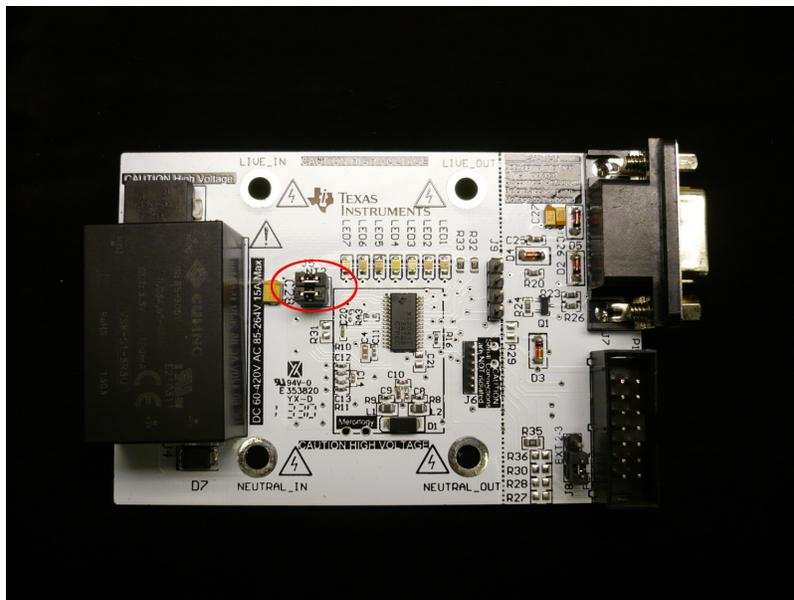

Figure 38. Jumpers
1. Install jumpers to J5 as shown in Figure 38.